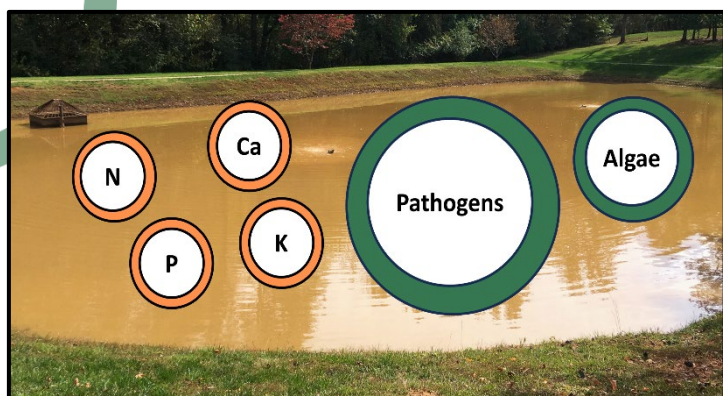

Figure 1. Suspended sediments, pathogens, and algae can contribute to high turbidity.
- Turbid water can contain microorganisms, including pathogens and algae (**Figure 1**).